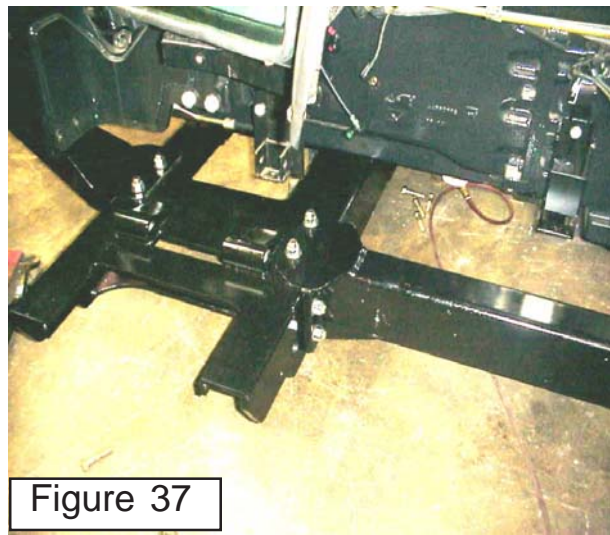

Figure 37
2. Under Frame Weldment. The Under frame weldment center section is designed for the turret assembly to mount on the RH side. Remove the one long mounting pin and the front and back short mounting pins (See Figure 36 & 37). Check to make certain the mounting bolts mounting the center under frame weldment are installed with the bolt heads under frame weldment and nuts are on top visible looking down, if they are in wrong the swing cylinders will hit the bolts causing damage to cylinders and bolts. (See Figure 37)